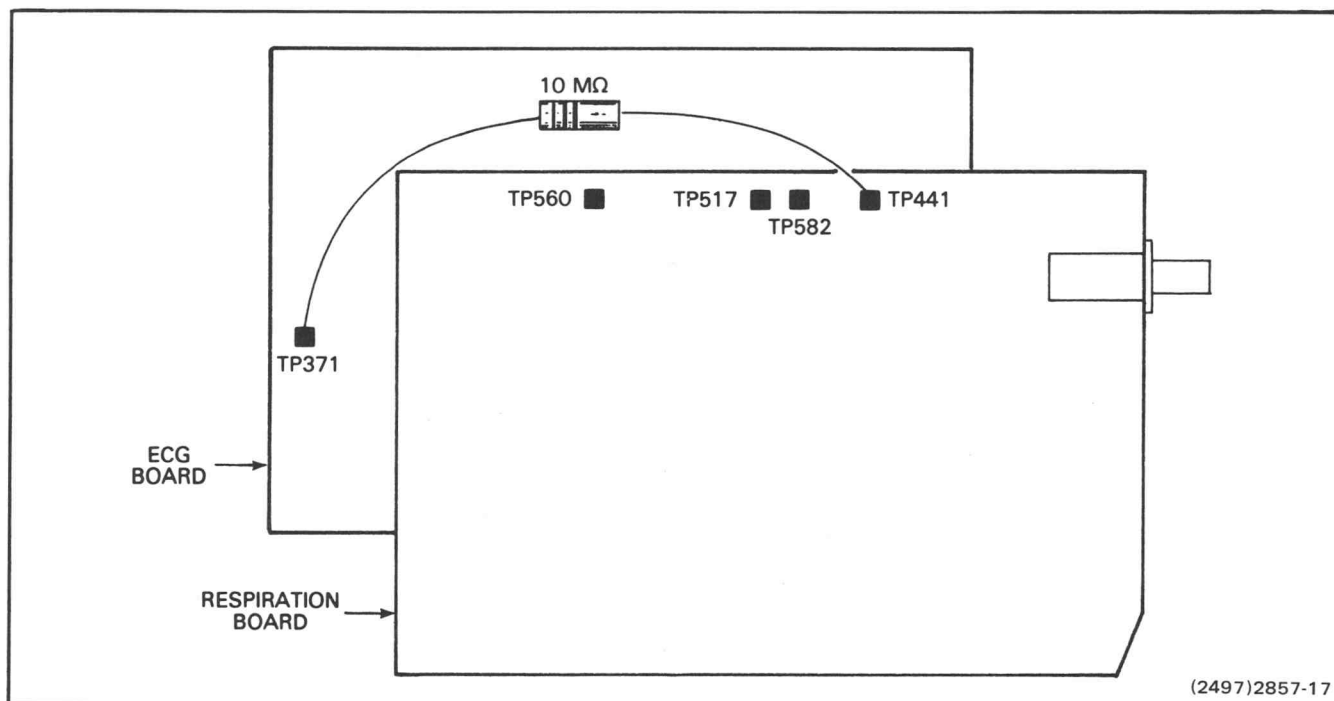

Figure 8-3. Respiration-rate test-signal connection.
b. Connect a 10 MΩ resistor between TP371 on the monitor ECG board and TP441 on the monitor Respiration board. See Figure 8-3.
b. Connect a 10 M Ω resistor between TP371 on the monitor ECG board and TP441 on the monitor Respiration board (see Figure 8-3).